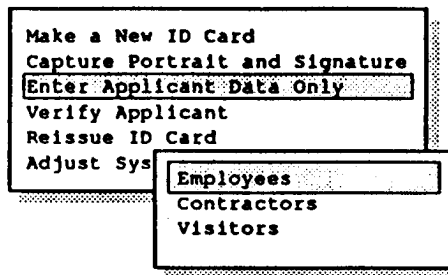

Figure 2-23 Applicant Category window
1. Select **Enter Applicant Data Only** from the Issue and Verify menu to open the applicant category window (Figure 2-23).